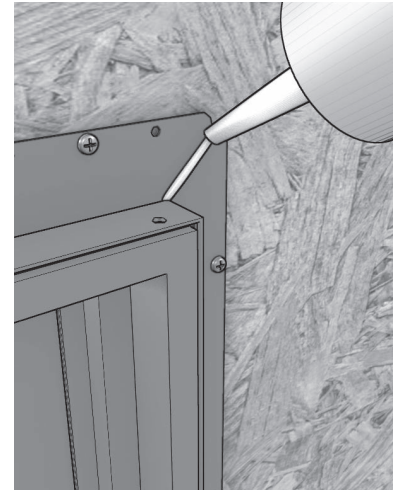

Figure 16
**1p) (Required)** After fastening the window unit, apply sealant to the mitered corners of the nailfin as shown in figure 16. Make sure to apply it all the way into the corner of the unit. Check all the unit joints (corners and mullions) making sure that none of the joints have gaps or that the sealant is cracked. If there is a visible crack width, use a clear 100% silicone and reseal the joint(s).